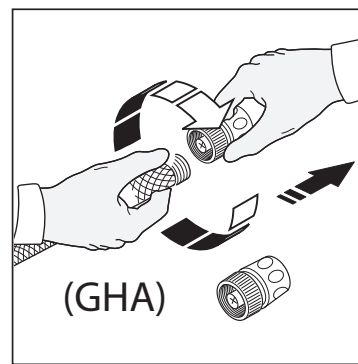

Fig. 11
- Attach the garden hose adapter to the end of the garden hose (**Fig. 11**).